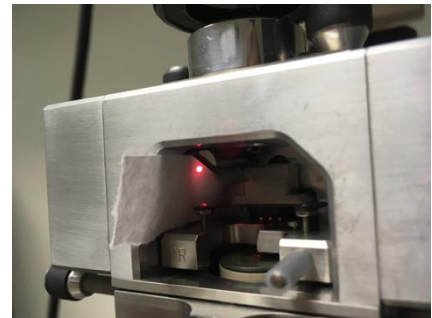

Figure 6. Photo of laser alignment using method 2
- **Alignment method 2:** Slide a piece of paper in front of the detector such that when the laser bounces off the cantilever, it will be visible on the sheet of paper – as shown in **Figure 6**.